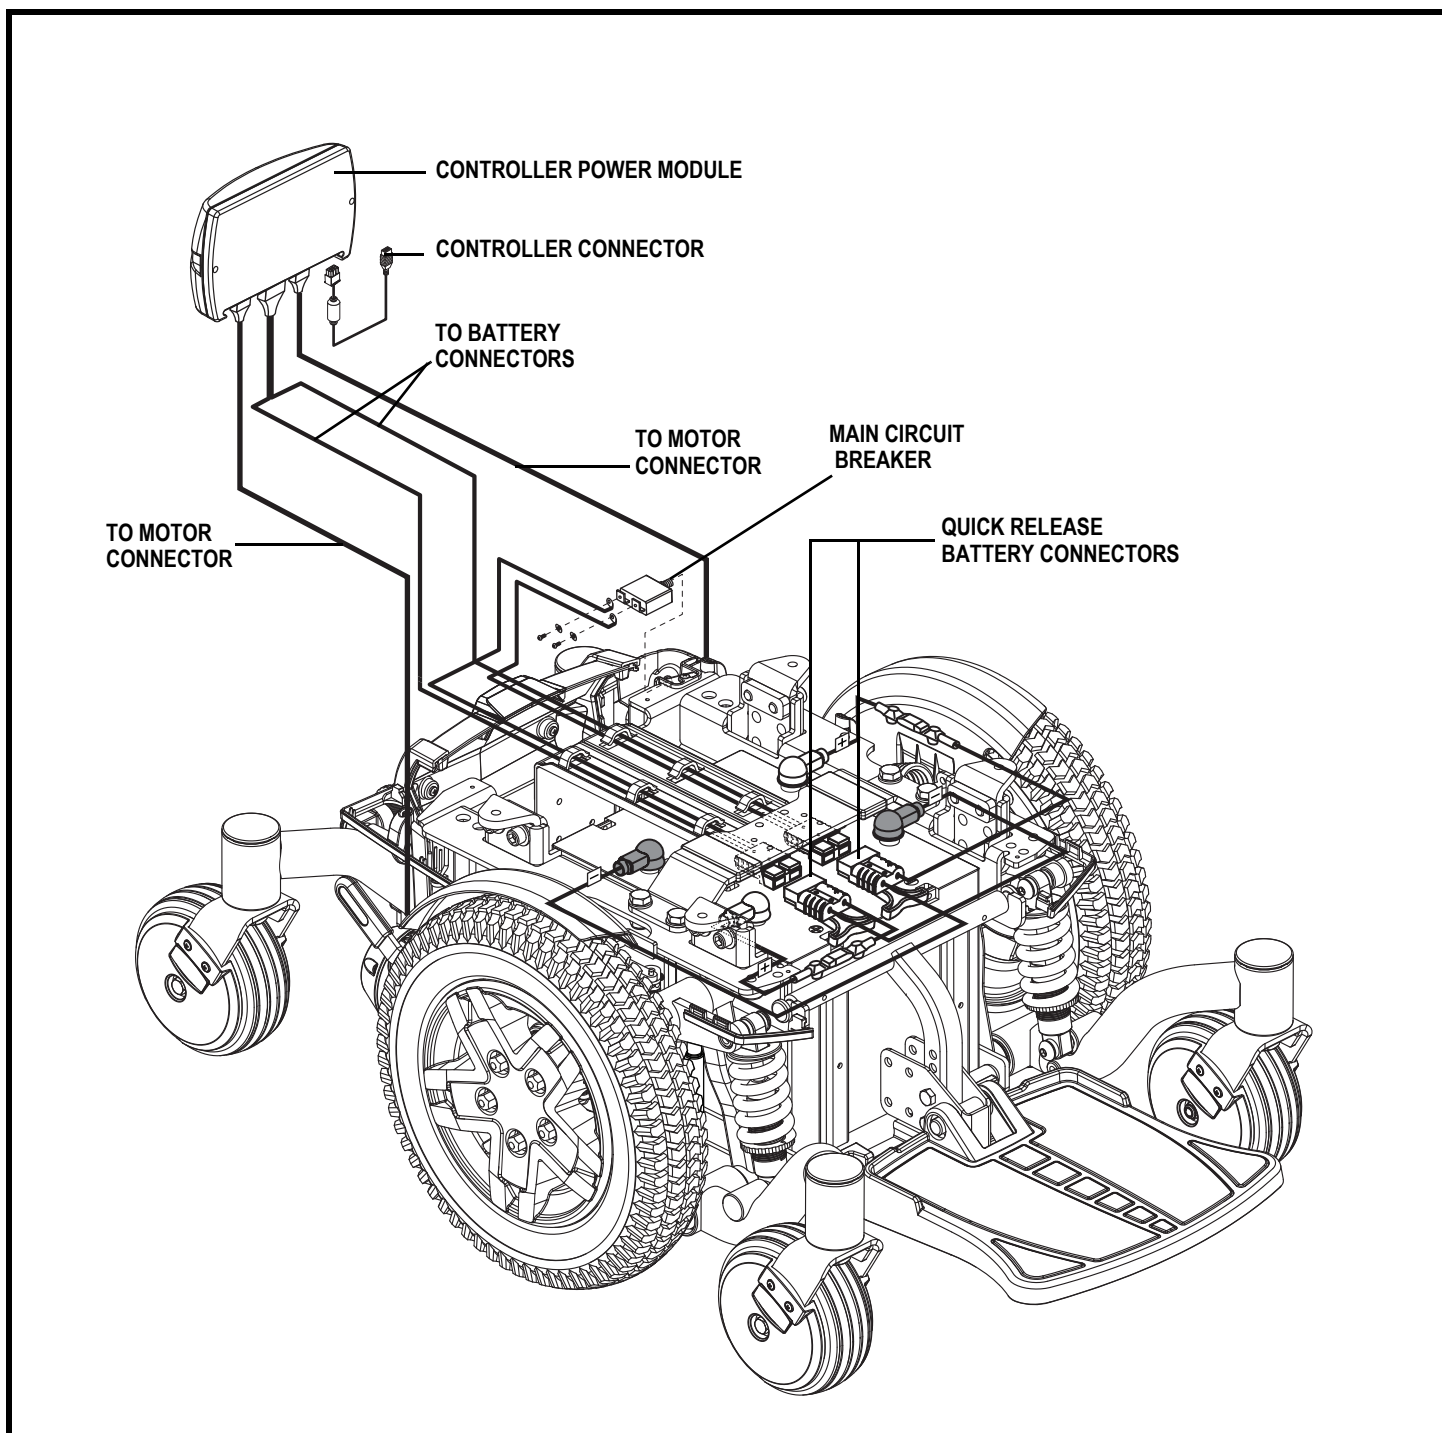

Figure 3. Jazzy 623 Electrical Components
The electrical components consist of the controller assembly, the batteries, and the motors. The batteries, motors, and controller power module (if equipped) are located on the power base assembly. The controller is located on the seat assembly. Connectivity between the controller and the motors, batteries, and the battery charger is provided by one or more wiring harnesses. **See figure 3.**
5. Plug the controller connector into the rear of the power base. See figure 3.
3. Unplug the controller connector(s) from the power base. See figure 3.